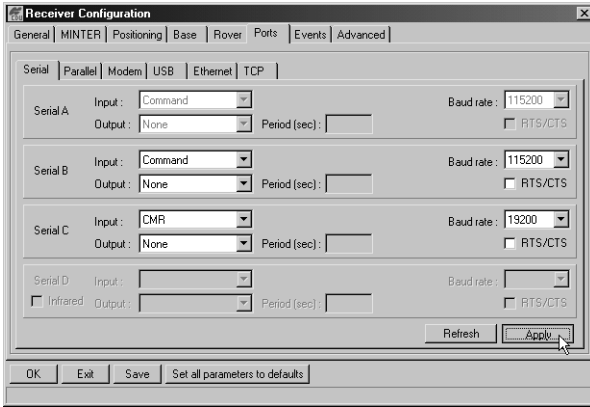

Figure 3-12. Rover Configuration – Ports
6. Select the **Ports** tab and set the following parameters for Serial C (Figure 3-12 on page 3-17):